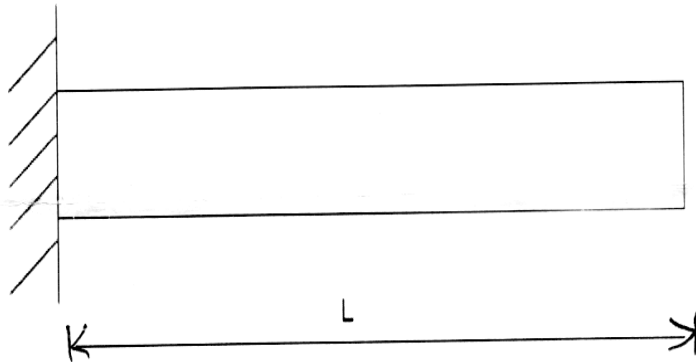

Fig. 4
- Q8) a) Find the natural frequency of bar using lumped mass matrix method. Use following data  $E = 2 \times 10^{11} \text{ N/m}^2$ ,  $\rho = 7800 \text{ kg/m}^3$  and  $L = 1 \text{ m}$ . Considered 1 element only. The bar is shown in Fig.4. [12]